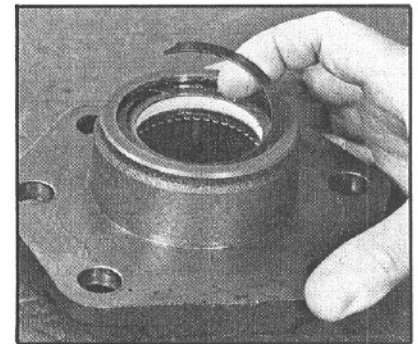
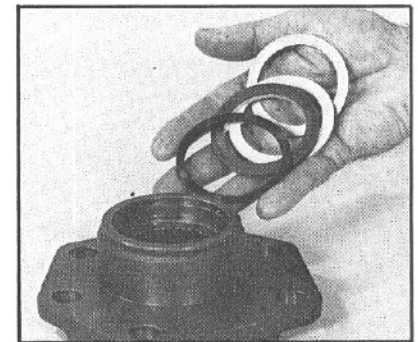

Figure 46
Figure 47
13. Remove the side cover retaining ring (53) (FIG. 46), the two-piece side cover seal (54), the Teflon backup washer (55), and the steel backup washer (56) from the side cover (58) (FIG. 47). Discard the two-piece seal and the Teflon backup washer. Remove the rubber plug (60) and discard it.